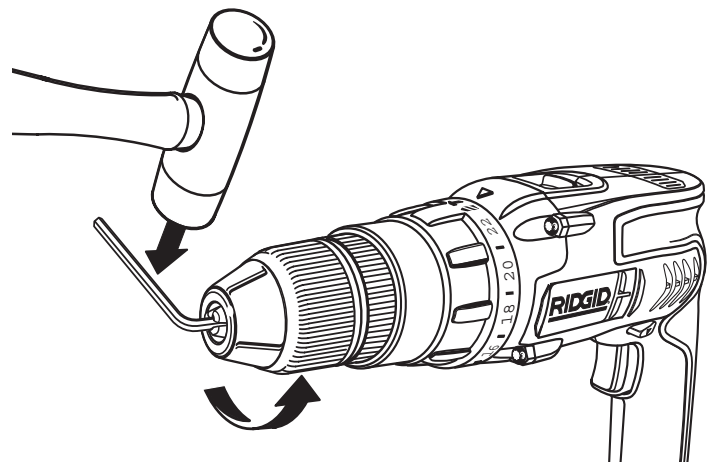

Fig. 19
- Insert the hex key in the chuck and tighten chuck jaws securely. Tap sharply with a mallet in a counterclockwise direction. This will loosen the chuck on the spindle. It can now be unscrewed by hand. See *Figure 19*.